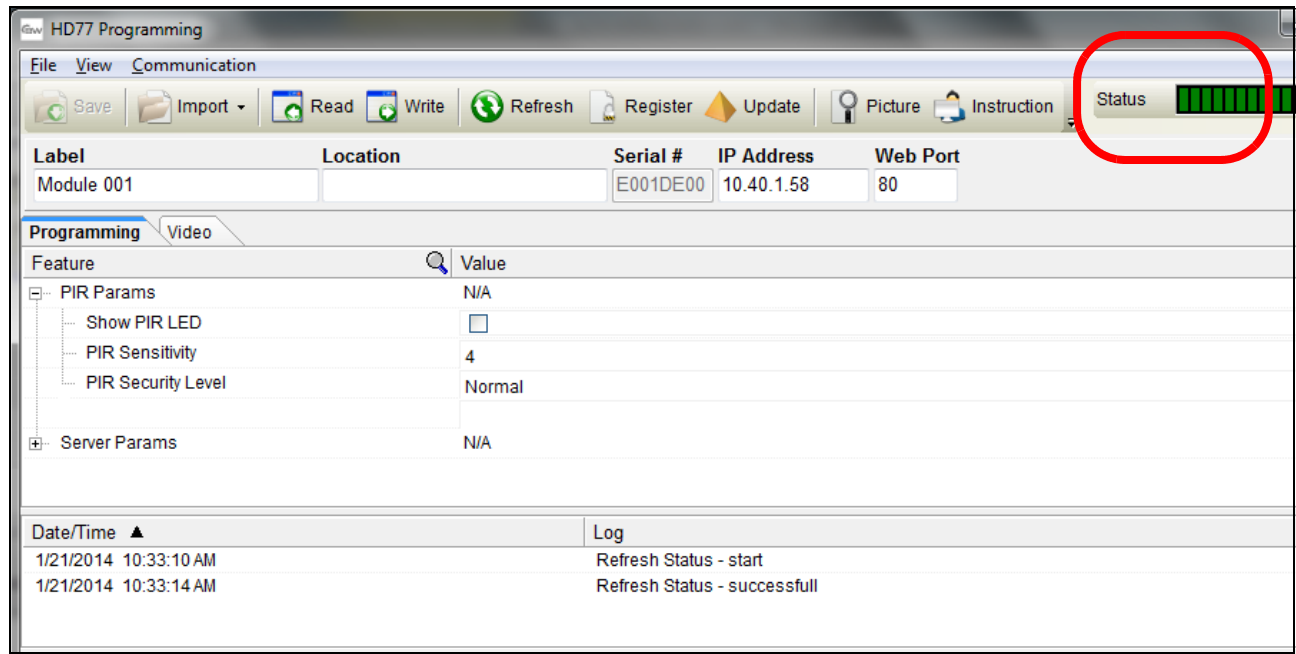

Figure 24 – PIR Parameters
5. Select the configuration parameters (See Figure 24 on page 24):